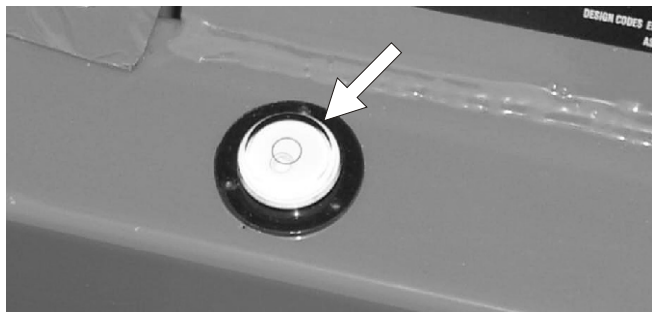
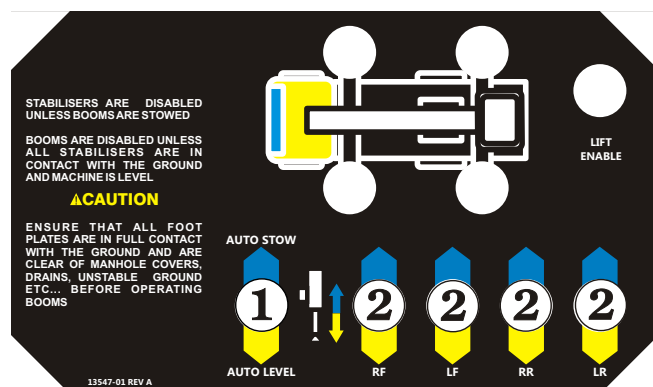

Figure 10.7
Figure 10.8 - Auto Level Controls
1. Operate each switch **2** (see Figure 10.8) to raise or lower each stabiliser one (1) at a time. Use the level bubble (see Figure 10.7) to check the machine is level.